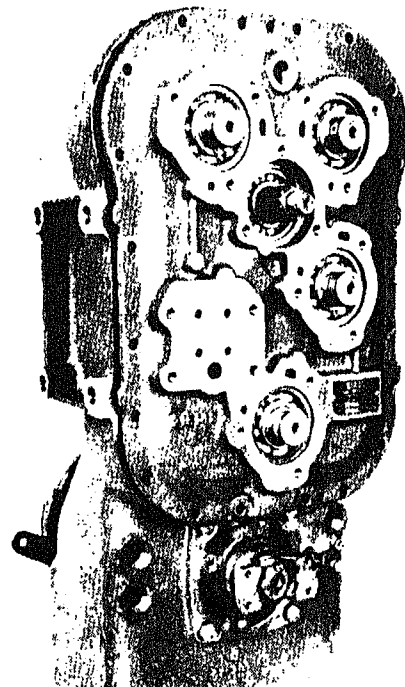

Fig. 84
**NOTE:** As cover is being pried from case, tap shaft with a soft hammer to prevent it coming out with cover (Fig. 84).